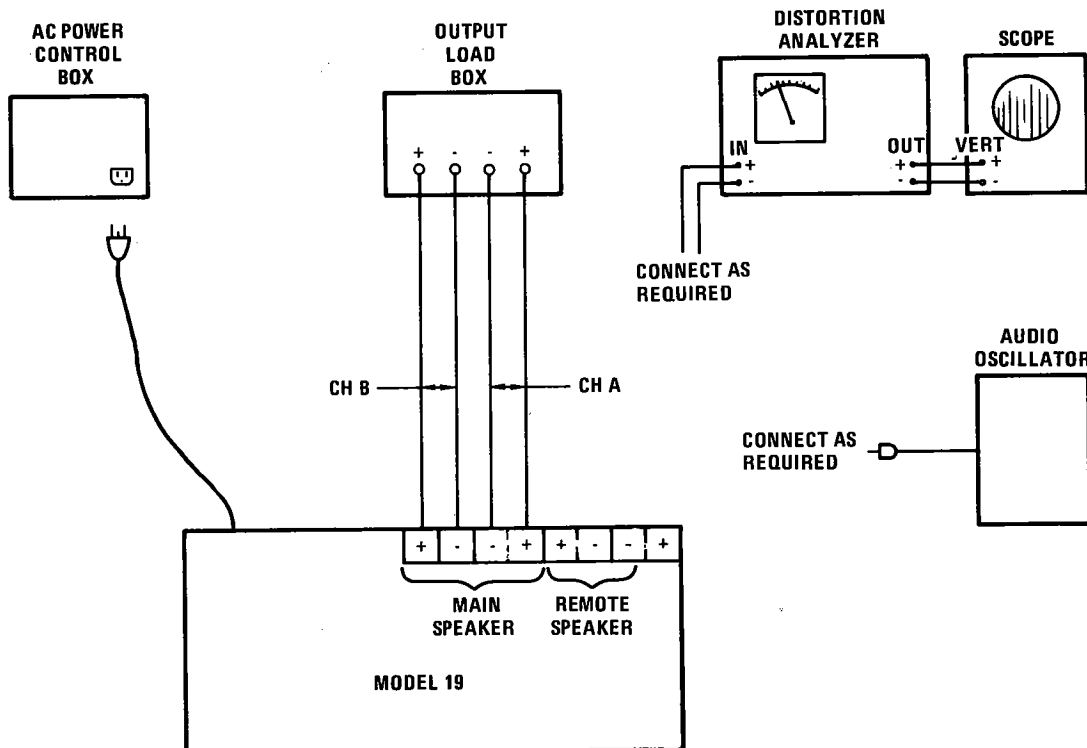

FIGURE 3. AUDIO TEST SET-UP
1. Make the test setup shown in figure 3 with instrument controls set in the following positions: